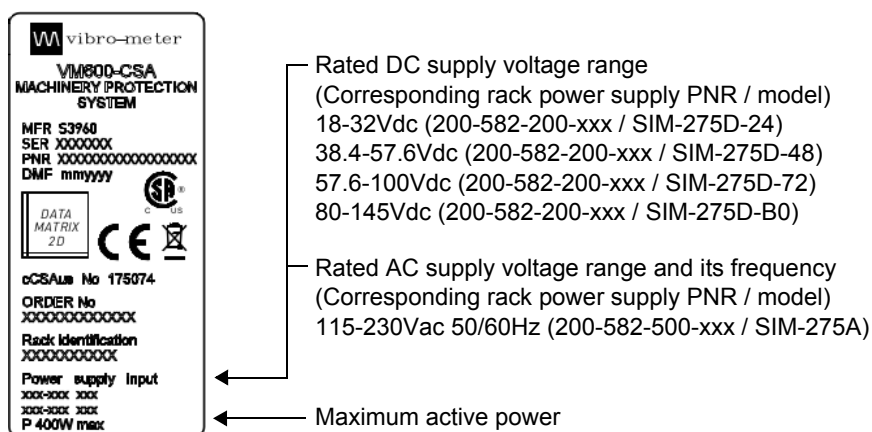

Figure 2-19: Example VM600SYS label (earlier versions of VM600 system racks)
- For earlier versions of VM600 system racks, a VM600SYS label on a rear panel provides the specifications for the RPS6U power supply inputs and additional information about the VM600 system such as order number (see Figure 2-19).